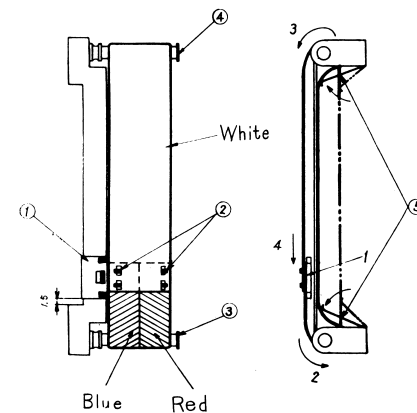

Fig. 4
## TO FIT THE DIAL BELT (Refer to Fig. 4)
Set the needle ① at the position as shown in Fig. 4 and put the part ② of the needle into the square holes of the belt, and pass it around the roller ③, ④ in numerical order (1~4), and put the square hole of the white parts upon the needle. Bend the part ② to outside each other and fix the part ②, and stretch the belt by bending the spring ⑤ in the direction of arrow mark.